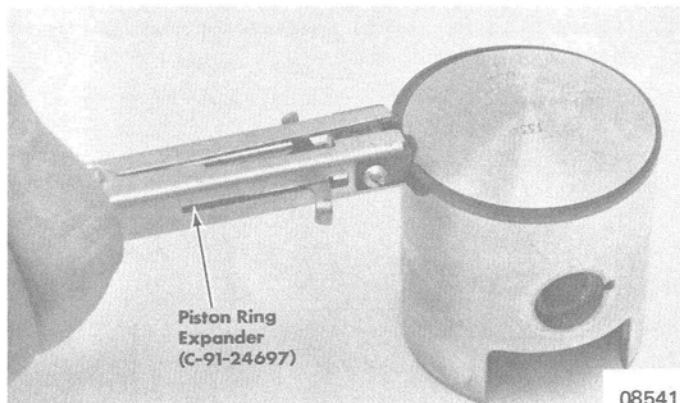

Figure 11. Piston Ring Replacement
5. Use Piston Ring Expander (C-91-24697) to remove piston ring from each piston. (Figure 11)